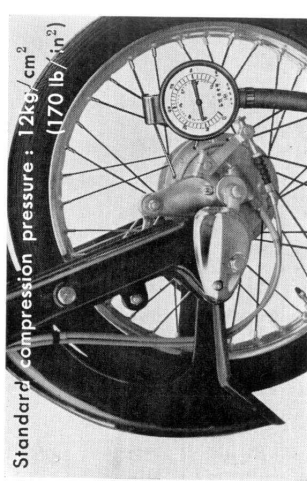

Figure 6-2. Standard compression pressure
- ① Make sure that the throttle and choke are fully opened, or else, a lower pressure indication will be registered on the compression gauge.
- ② The cylinder compression pressure indication will gradually increase with each kick, therefore, continue kicking until the pressure stabilizes at the highest point.
- ③ To obtain a true cylinder pressure indication the measurement should be made after the engine attains operating temperature.
- ④ Check for the proper operation of the valves
- ⑤ Make sure that the compression gauge is firmly fitted in the spark plug hole.
- d. The standard specified cylinder compression pressure is 12kg/cm² (172 lb/in²). (Fig. 6-2)